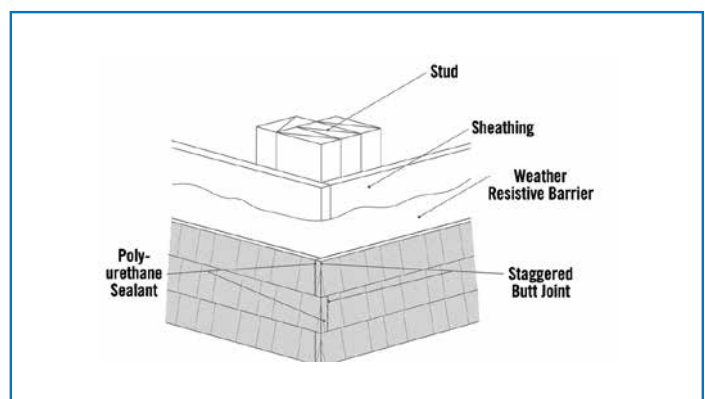

Fig. 11.3
- NichiFrontier boards may be installed in a "laced" or staggered corner application. (Fig. 11.3)